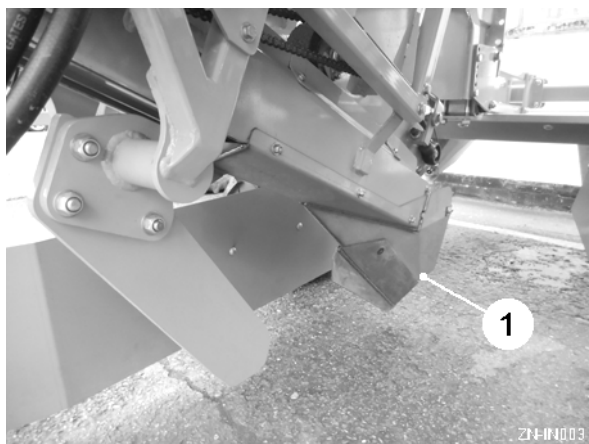
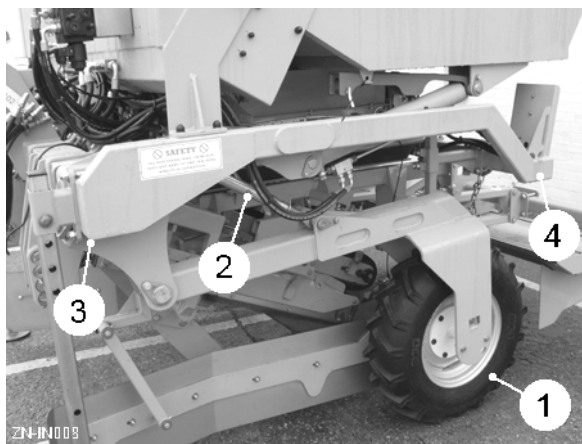

Fig 3
Fig 4
The seed planting depth is determined by the height of the openers (item 1, fig 3) relative to the land wheels (item 1, fig 4). The depth control can be either manual or hydraulic.
On machines with manual depth control, the depth is set by the top links (item 2, fig 4). Shortening the top links will lower the openers relative to the wheels thus increasing the planting depth. Always adjust both wheels equally.
With the tractor and planter outfit on firm, level ground, raise the planter wheels clear of the ground and place supports under the front beam (item 3, fig 4) and rear beam (item 4, fig 4).
1. With the planter on firm, level ground, raise the planter on its land wheels until the openers (item 1, fig 3) are clear of the ground.
2. Place supports under the front and rear beams (item 3 & 4, fig 4) to stabilise the machine.